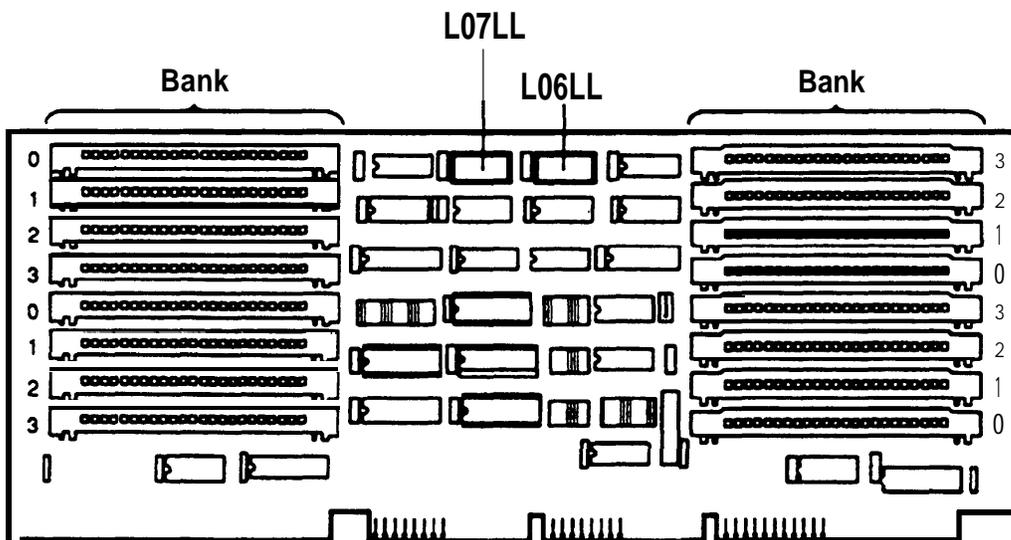

Figure 2-11. 6386 and 6386E WGS Memory Expansion Board
The 6386 and 6386E WGS processors use a special memory expansion board shown in Figure 2-11. This memory board plugs into one of the 32-bit slots.
2. To install one kit of four SIMMs, insert the four SIMMs only in the sockets marked 1 in Figure 2-11. To install three kits of four SIMMs, insert SIMMs in all open sockets.